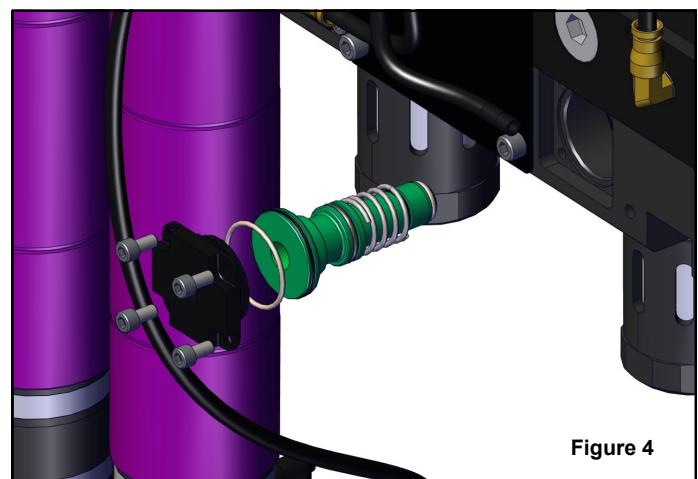

Figure 4
4. Using a 4mm hex key wrench, remove the four socket head cap screws holding the piston cover in place. Figure 4
6. Using a finger or a 1/2-13 bolt, remove the piston from the piston bore. Be sure to remove the piston spring. Figure 4
12. Using a 4mm hex key wrench, replace the four socket head cap screws holding the piston cover in place. Tighten until snug, then add 1/4 turn. Figure 4